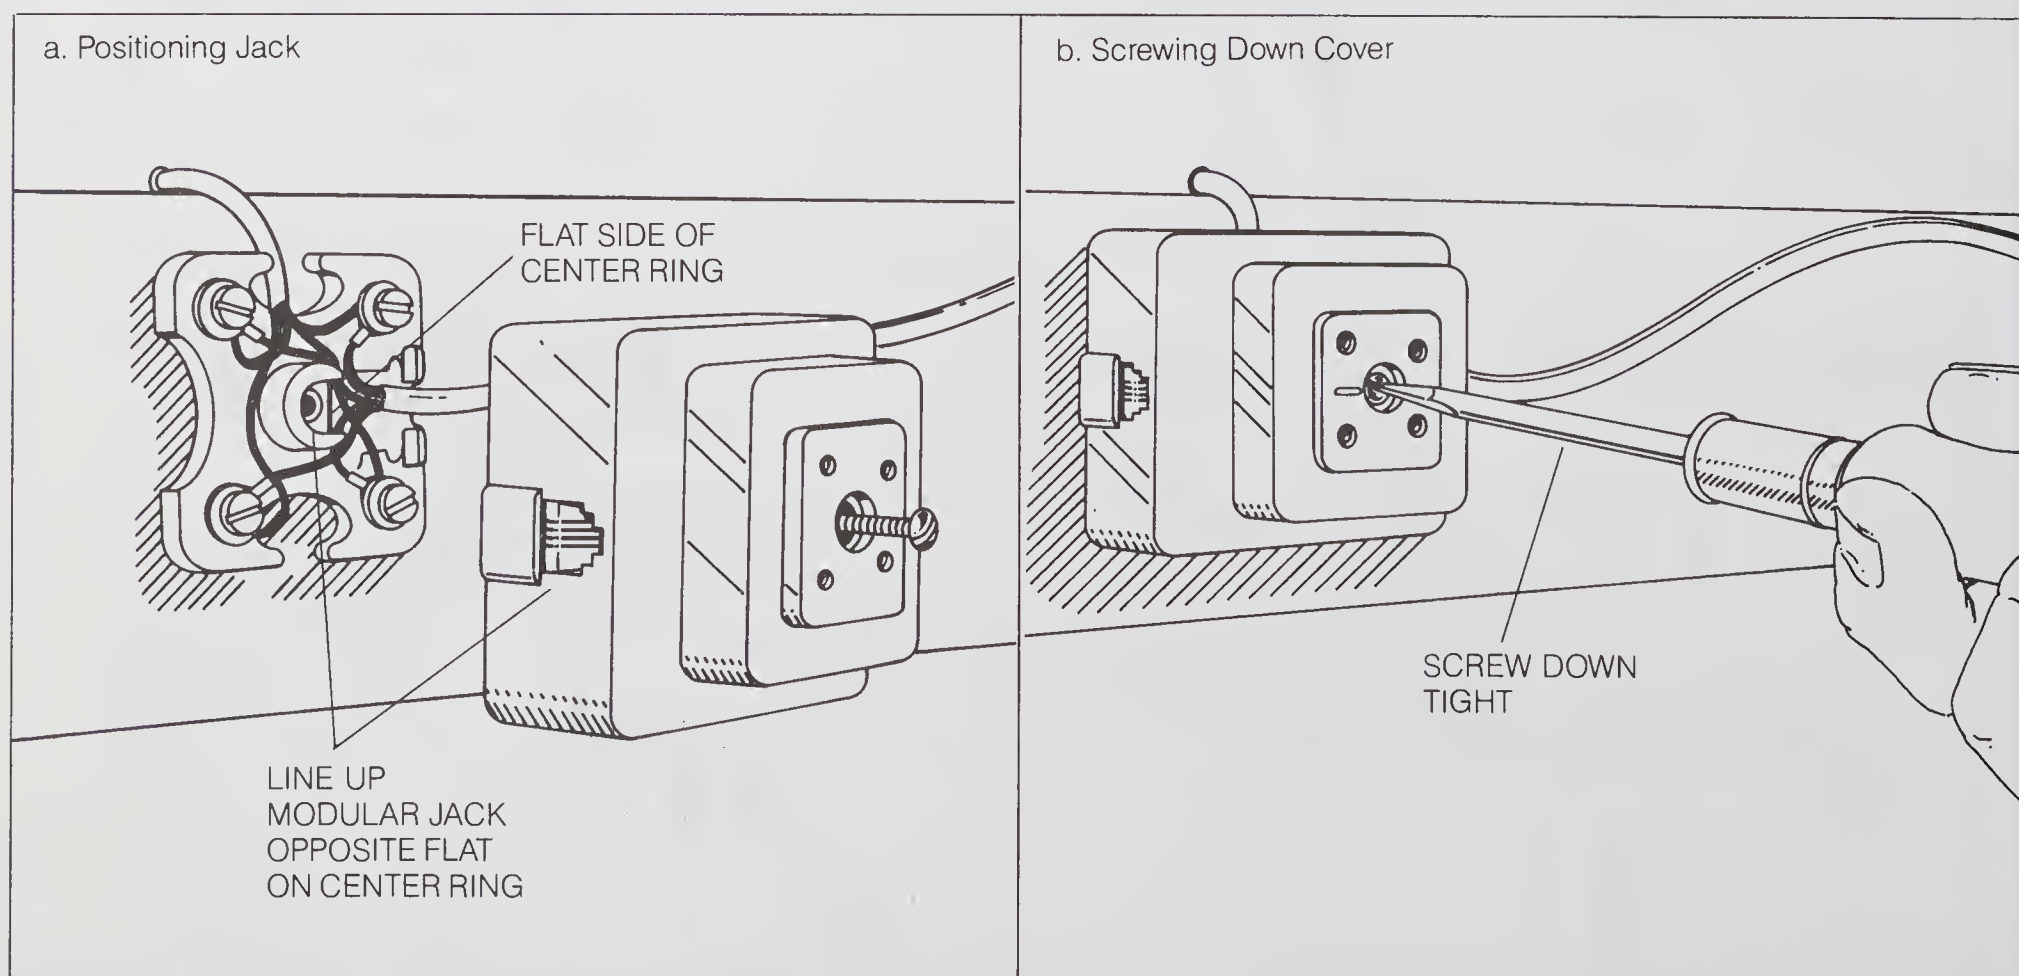

Figure 4-4.
2. An easy way to convert the 42A block to a modular jack is to use a universal instant jack and install it as shown in *Figure 4-4*. Remove cover from the 42A block and discard it. Position the universal instant jack over the 42A block as shown. The center ring of the 42A has a flat side on it. The modular jack on the universal instant jack should be opposite the flat side on the center ring. There is a cable cutout not shown in *Figure 4-4* that should line up with the flat side on the 42A block. Disconnect the rental telephone by snipping the wires as in step 1. Push the universal instant jack over the 42A, line up the screw holes and fasten the jack to the 42A block with the screw provided. The connections to the 42A screw terminals are made with spring finger contacts inside the universal instant jack; therefore, *the 42A block is converted to a modular jack without loosening any terminal screws on the 42A block*. Only a screw driver and diagonal cutters are required. Red is connected to red, green to green, yellow to yellow and black to black with the spring finger contacts.
3. Connect the modular plug on the end of the cord of your purchased telephone in the modular jack. You should have a dial tone when you lift the handset. If there is no dial tone, check the way you mounted the jack on the 42A block. If it is turned 180°, the red wire is connected to the black wire on the 42A, and the green wire is connected to the yellow wire on the 42A. As a result, the telephone will not work. Check *Figure 4-4* again to make sure the instant jack is installed on the 42A block correctly.